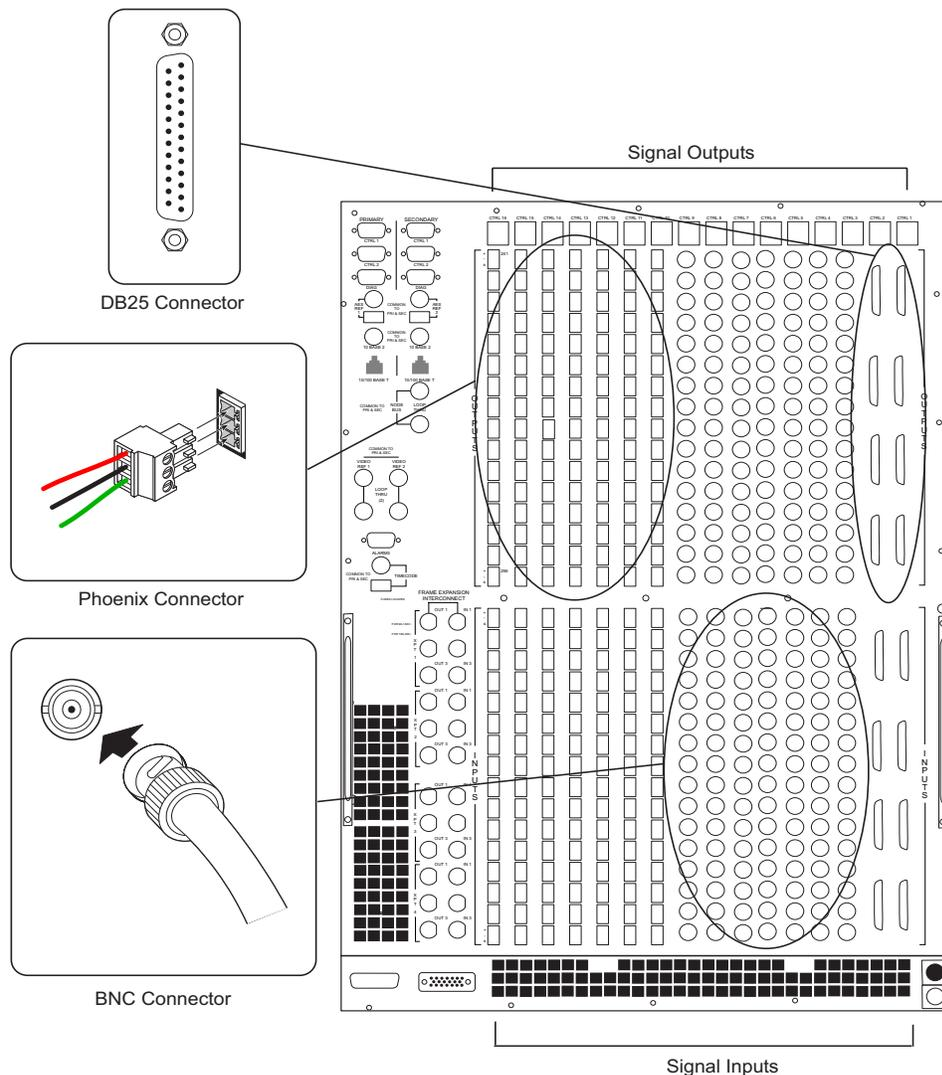

Figure 3-15. Example of Mixed Backplanes on a NV7256Plus (Rear View)
- NV7256-Plus back plate is comprised of BNC, Phoenix, or DB25 backplanes that can be inter-mixed together in a single back plate, as shown in Figure 3-15.